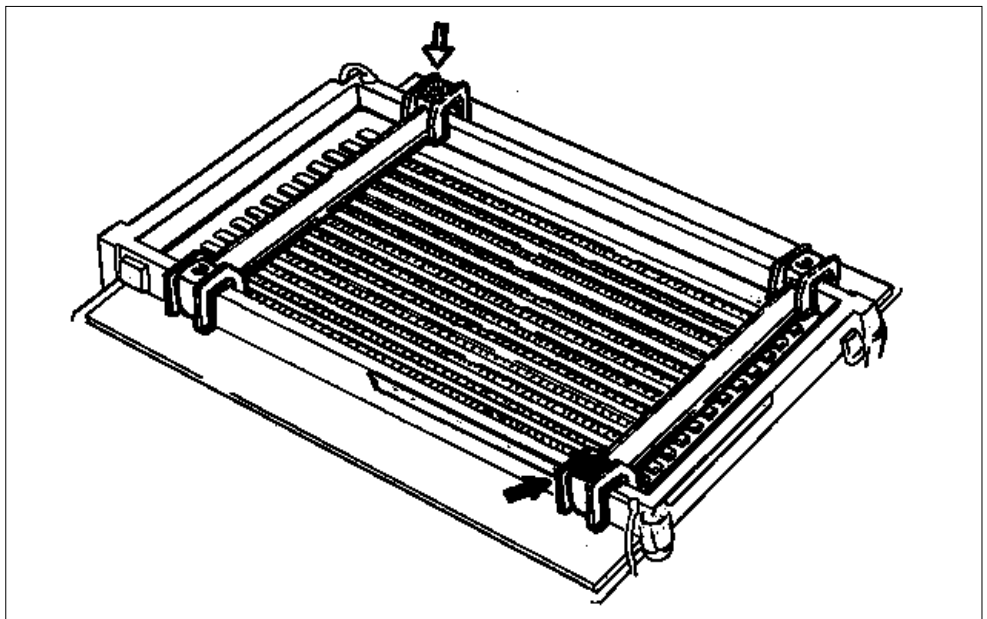

Fig. 15.
- Position the electrodes and press them down on top of IEF Electrode Strips (Fig. 15).